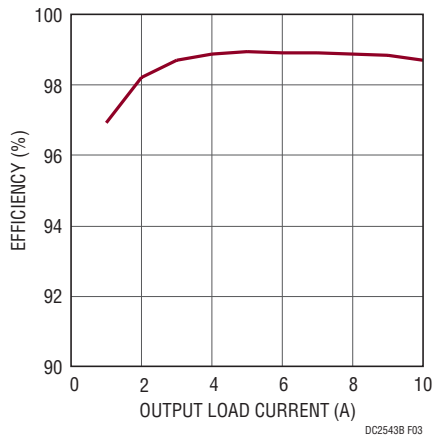

Figure 3. Efficiency vs Load Current at  $V_{IN} = 48V$ ,  $V_{OUT} = 24V$ ,  $f_{SW} = 200kHz$
The DC2543B provides a very high efficiency solution of 98.7% when converting  $48V_{IN}$  to  $24V_{OUT}$  at 10A as shown in Figure 3. When configured for a 20A output, an efficiency of up to 98.4% is achievable for a  $48V_{IN}$  to  $24V_{OUT}$  at 20A as shown in Figure 8.
1. When measuring the output or input voltage ripple, do not use the long ground lead on the oscilloscope probe. See Figure 3 for the proper scope probe technique. Short, stiff leads need to be soldered to the (+) and (-) terminals of an output capacitor. The probe's ground ring needs to touch the (-) lead and the probe tip needs to touch the (+) lead.